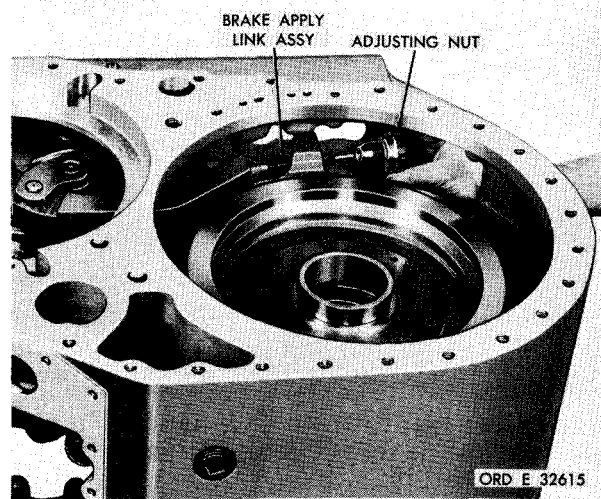

Figure 196. Installing left-brake adjusting nut
ae. Assemble items 3 through 14 (fig. 379, fold-out 8) and install as in fig. 196. Install brake adjusting nut on the brake link, approximately 1/2 inch (fig. 196).